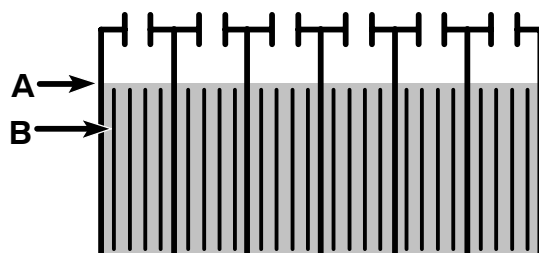

FIG. 24
3. Before charging the batteries, periodically check the electrolyte level in each battery cell (Figure 24).
The electrolyte level (A) should slightly cover the battery plates (B). Add distilled water as needed. **DO NOT OVERFILL**, the fluid may expand and overflow while charging. Replace cell caps before charging (Figure 24).